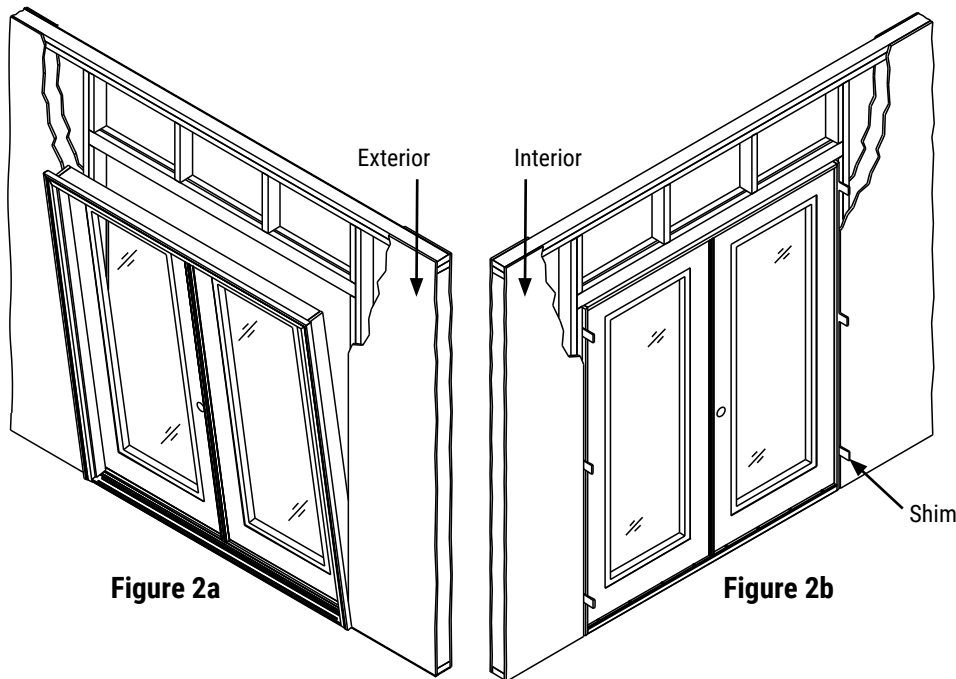

**Figure 1a**
**1 IMPORTANT:** Before setting the door unit to the opening, apply generous beads of caulk to the underside of the door sill at locations shown in **Figures 1a or 1b** including the jambs and brickmolds. Make sure that at least 3 lines of bead seal the full width of the sill for a complete seal.